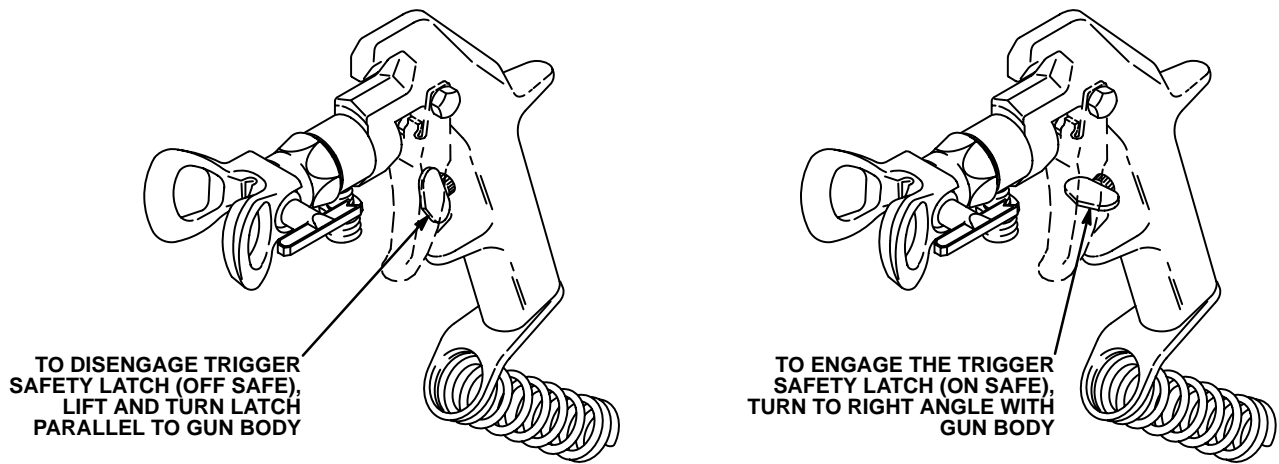

Fig 2
1. Guide a grounded fluid hose (A) through the hose guard (8), and connect the hose to the gun inlet adapter (13).
5. Be sure the gun safety latch is engaged. See Fig 2. Then install the tip and tip guard.
Whenever you stop spraying for a moment, engage the gun safety latch. See Fig 2.